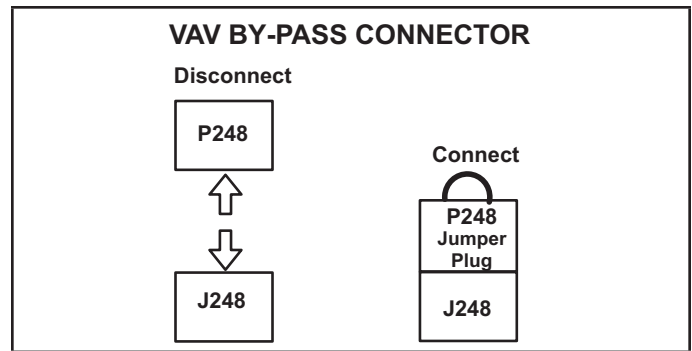

FIGURE 35
- 3- Disconnect J248 from P248 and connect connect P248 jumper plug to J248. P248 jumper plug is attached to the J248 wire harness near the J248 jack connector. See FIGURE 35.